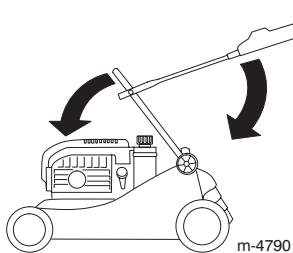

Figure 29
3. Carefully swing the lower handle section forward until it rests on the engine (Fig. 29).
- Carefully swing the upper handle section rearward until it rests flat (Fig. 29).